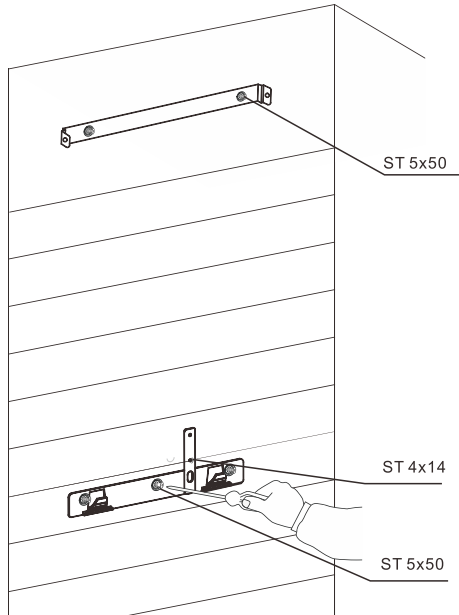

Fig.7
3. Install the flue cover mounting and wall brackets with screws to the wall as marked(Fig.7).